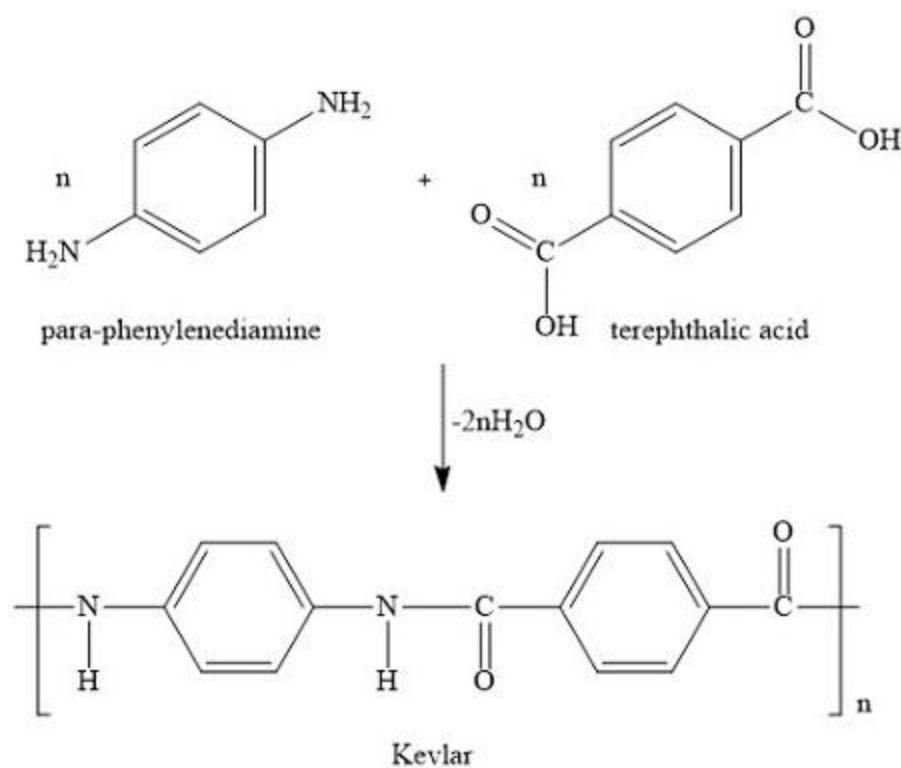

Figure2.ChemicalProcessofKevlar Production
Polymer composites can use Kevlar as reinforcement instead of glass or carbon fiber. The aromatic nylon fiber, Kevlar, can be combined with polyamides (nylon), polyesters, epoxies, polypropylene, or PEEK. The plastics can be combined with the Kevlar and then compression molded into a plastic part. The chemistry behind the process of making Kevlar is shown in figure 2. Kevlar is produced with a reaction of 1,4-phenylene-diamine (*para*-phenylenediamine) and terephthaloyl chloride in a condensation reaction yielding hydrochloric acid as a by-product and 1,4-phenylene-diamine (*para*-phenylenediamine) (Kevlar). (3)
Ballistic tests with six different firearms were performed in a Mexican army certified laboratory under the NIJ standard-0101.04 [26]. The short (0.22", 0.25" and 0.45" caliber) and long (9 mm, 5.56 mm and 7.62 mm caliber) weapons were fired at a distance of 5 m and 15 m, respectively, with an incidence angle of less than five degrees. A ballistic chronograph (CF-200 model) was used to measure the bullet speed. The shots were recorded using a 33,000 frames per second high-speed video recording camera (I-SPEED, model, 0400,548 series, OLYMPUS). The firearms and bullets characteristics are shown in Table 1 and Fig. 2.
Fig. 2. Bullets used for the ballistic tests. Left to right: (a) cartridges 0.22", 0.25", 0.45" and 9 mm caliber, and (b) cartridges 7.62 mm and 5.56 mm caliber.